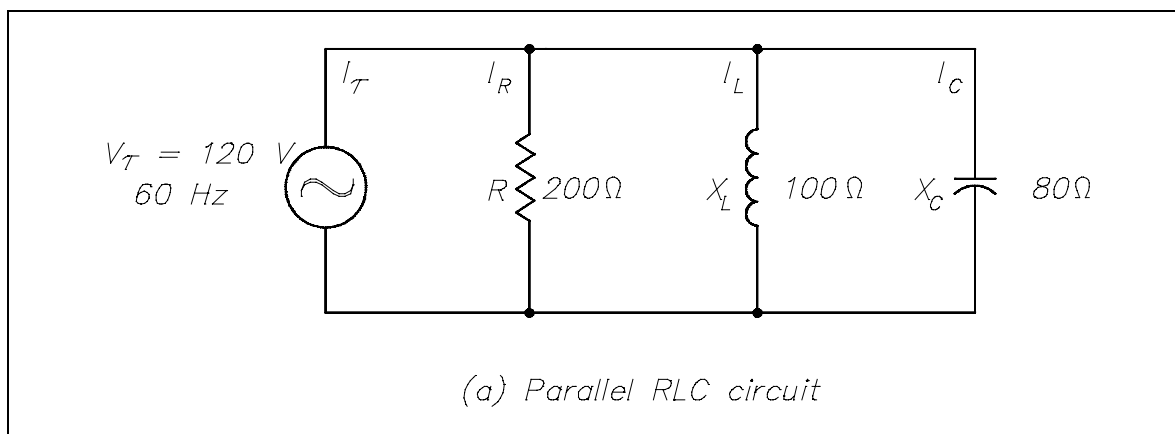

Figure 10 Simple Parallel R-C-L Circuit
Example: A 200Ω resistor, a $100 \Omega X_L$, and an $80 \Omega X_C$ are placed in parallel across a 120V AC source (Figure 10). Find: (1) the branch currents, (2) the total current, and (3) the impedance.
If a capacitor and an inductor, each with negligible resistance, are connected in parallel and the frequency is adjusted such that reactances are exactly equal, current will flow in the inductor and the capacitor, but the total current will be negligible. The parallel C-L circuit will present an almost infinite impedance. The capacitor will alternately charge and discharge through the inductor. Thus, in a parallel R-C-L, as in Figure 10, the net current flow through the circuit is at minimum because of the high impedance presented by X_L and X_C in parallel.